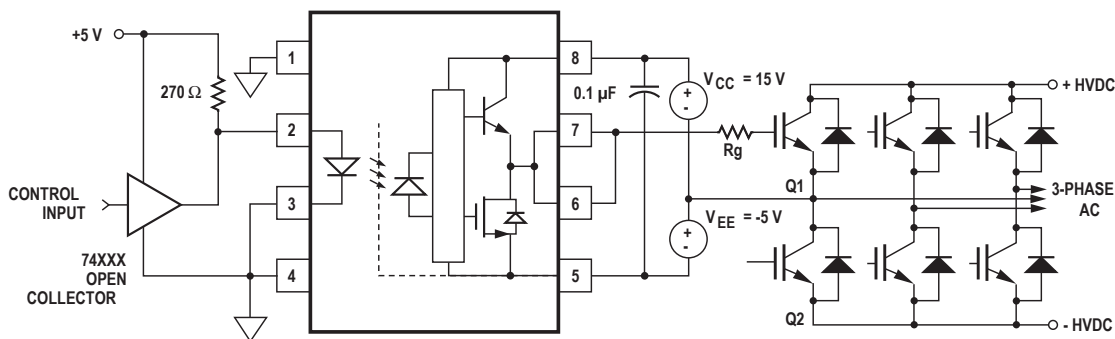

Figure 30. ACPL-3130 Typical Application Circuit with Negative IGBT Gate Drive.
Step 1: Calculate R_g minimum from the I_{OL} peak specification. The IGBT and R_g in Figure 30 can be analyzed as a simple RC circuit with a voltage supplied by the ACPL-3130.
For the circuit in Figure 30 with I_F (worst case) = 16 mA, $R_g = 8 \Omega$, Max Duty Cycle = 80%, $Q_g = 500 \text{ nC}$, $f = 20 \text{ kHz}$ and $T_A \text{ max} = 85^\circ\text{C}$: